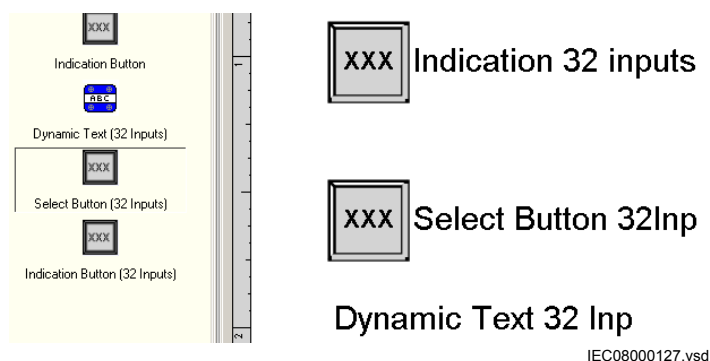

Figure 54: GDE: Dynamic Text symbols
- Select *Dynamic Text* and *Indication* to present the text for the actual value of the function block, see Figure 54.